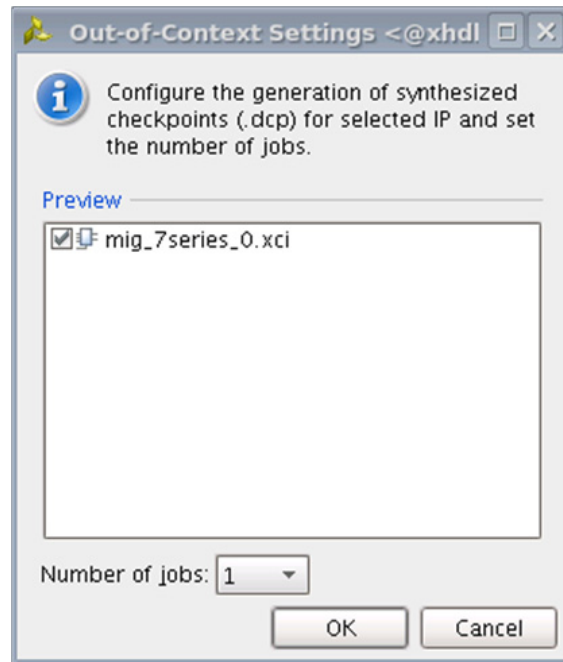

Figure 5-20: **Out-of-Context Settings Window**
2. Click **Out-of-Context Settings** to configure generation of synthesized checkpoints. To enable the Out-of-Context flow, enable the check box. To disable the Out-of-Context flow, disable the check box. The default option is "enable" as shown in Figure 5-20.